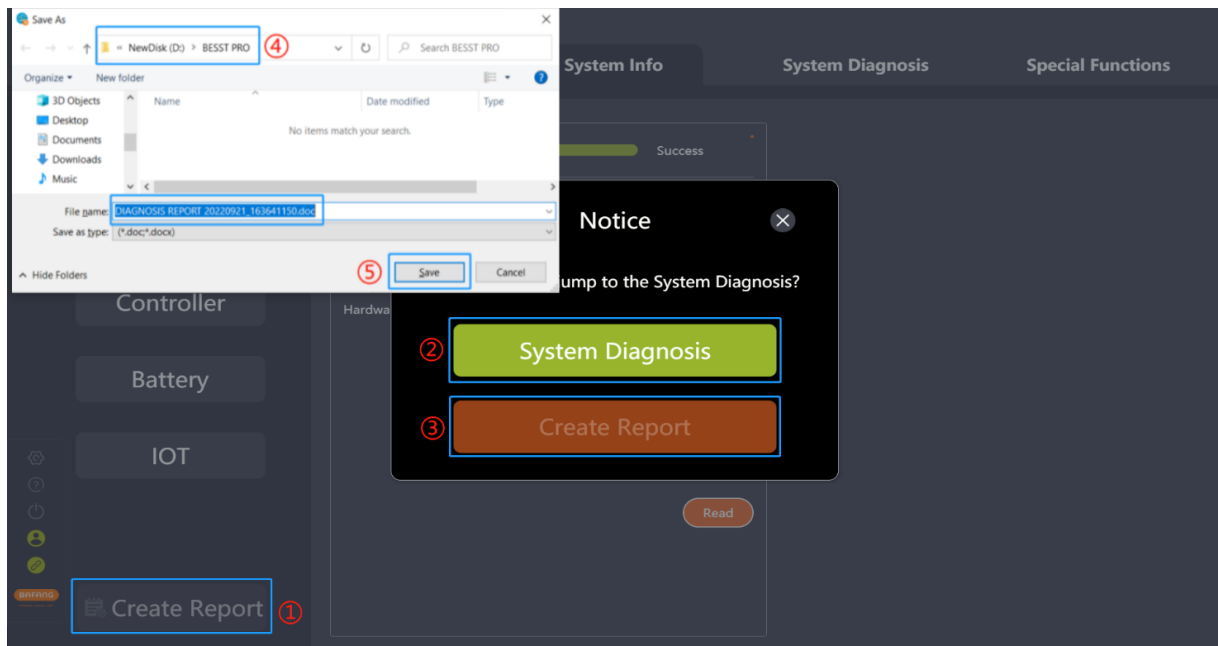

Fig. 6-5 System info interface reports creation
- (1) Click the “Create Report” icon, and a pop-up window will prompt “Do you want to jump to System Diagnostics?” (Fig.6-5).
- (2) For system diagnosis, click the "System Diagnosis" icon to jump to the system diagnosis interface.
- (3) Click the “Create Report” icon.
- (4) Select the local save path.
- (5) Click the “Save” icon to generate a PDF report.